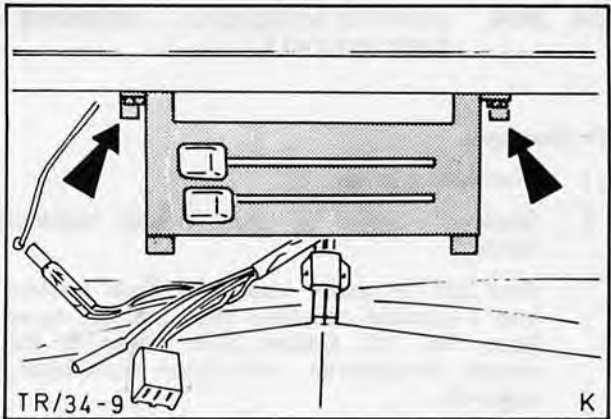

Fig. 9. Remove heater control panel
3. Remove heater control panel (2 screws), Fig. 9, from instrument panel and withdraw complete with bowden cables.